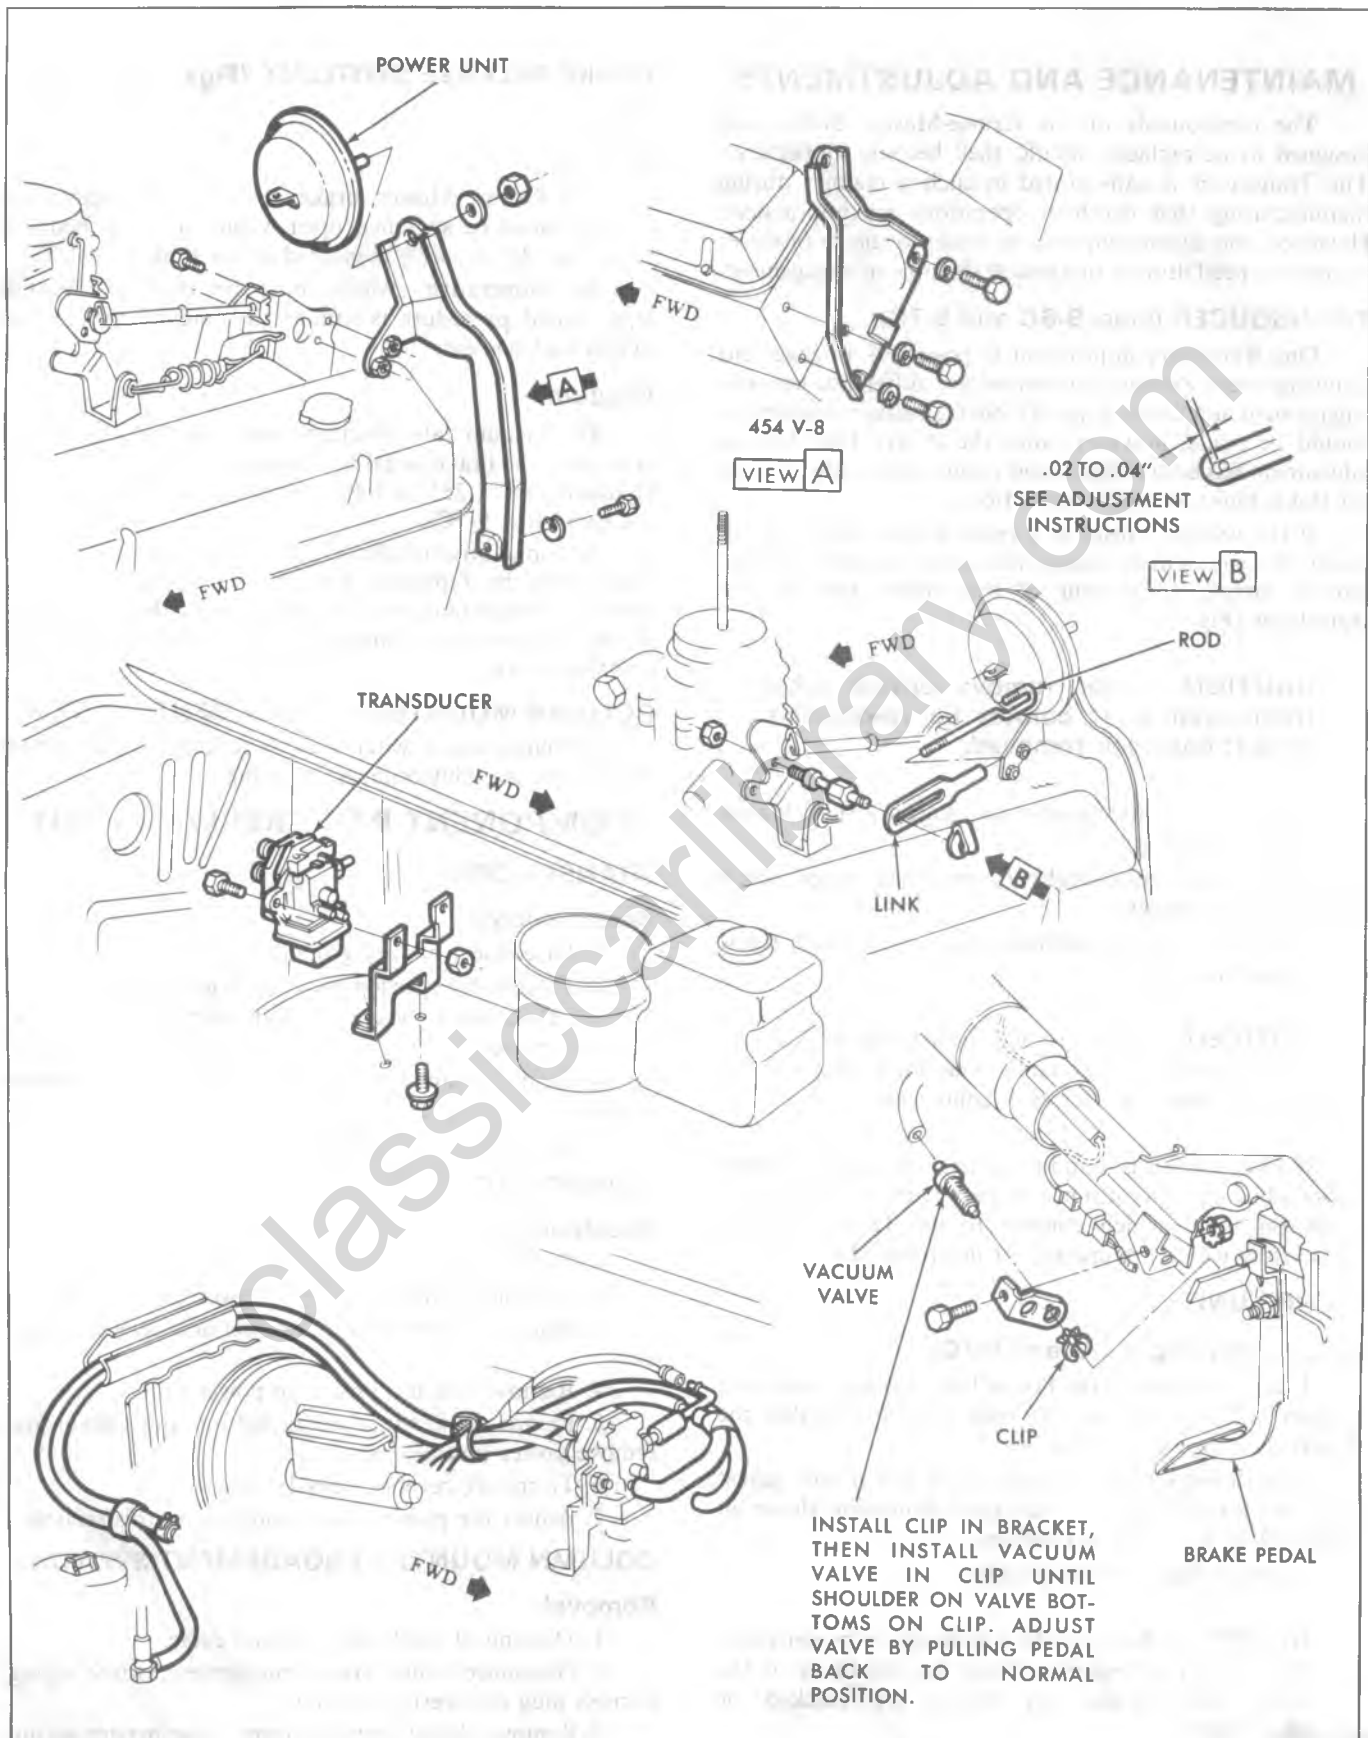

Fig. 9-6C-Cruise Master Installation-C-K Models
TRANSDUCER (Figs. 9-6C and 9-7C)
Adjustment (Fig. 9-6C and 9-7C)
2. With rod hooked through tab on power unit, adjust length by turning link onto rod until dimension shown in Figures 9-6C and 9-7C is obtained.
BRAKE RELEASE SWITCHES (Figs. 9-6C and 9-7C)